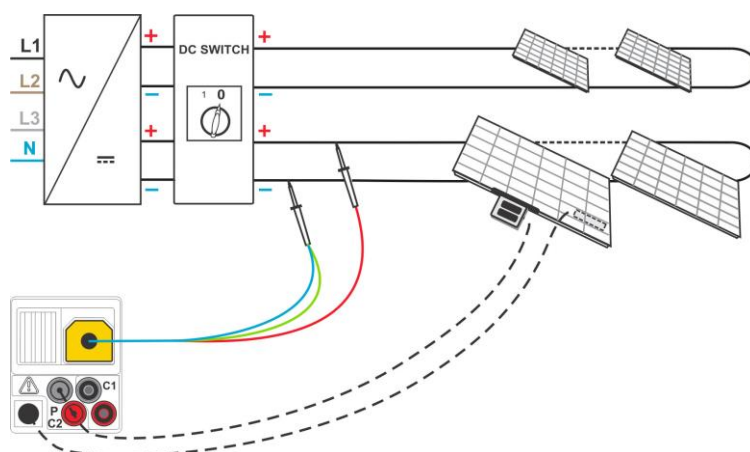
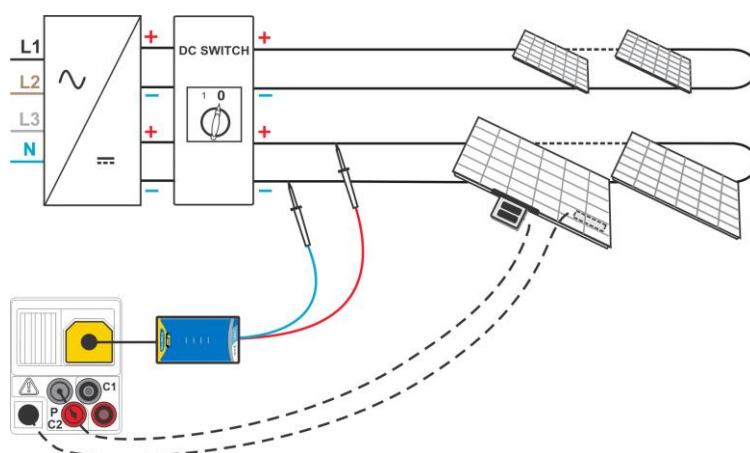

Figure 5.35: Connection with universal PV test lead
Figure 5.36: Connection with PV safety probe
- ❑ **Connect** universal PV test lead / PV safety probe and sensors (optional) to the instrument (see **Figure 5.35** and **Figure 5.36**).
- ❑ **Connect** accessories to the item to be tested (see **Figure 5.35** and **Figure 5.36**).